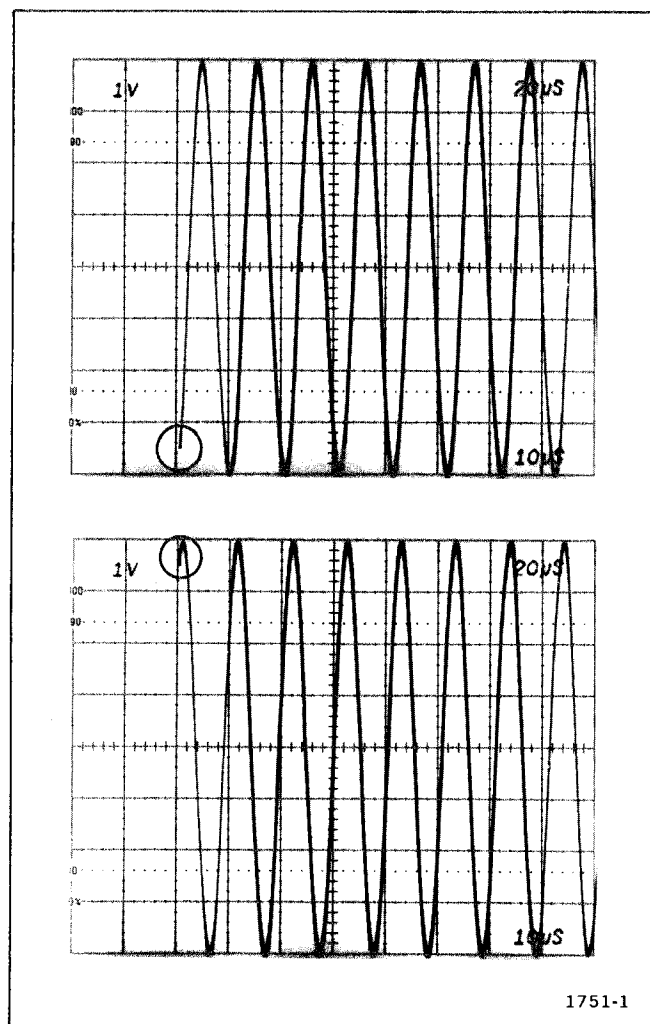

Fig. 5-1. Main Triggering level range.
g. Check—that all levels of the positive slope may be selected for the sweep starting point as the MAIN TRIGGERING LEVEL control is rotated throughout its range, and that triggering occurs at least 3.5 divisions above and below the center horizontal graticule line. See Fig. 5-1 for reference.